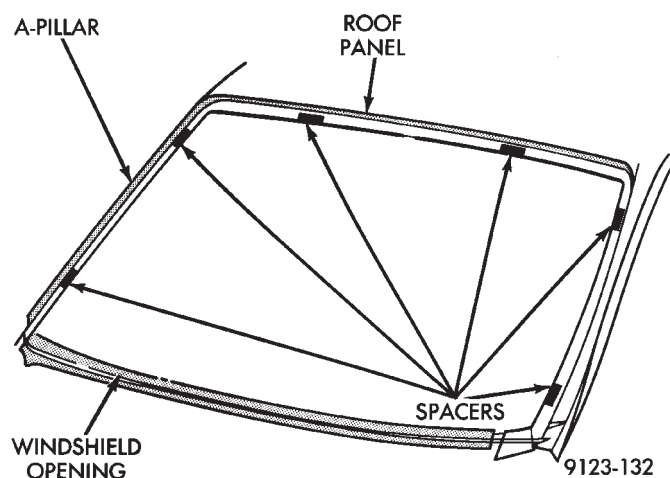

Fig. 5 Position Urethane Compression Spacers
(5) Apply black-out primer 15 mm (.75 in.) wide on top and sides of windshield and 25 mm (1 in.) on bottom of windshield. Allow at least three minutes drying time.
(6) Position windshield bonding compression spacers on lower fence above the support spacers at the edge of the windshield opening (Fig. 5).
(7) Install windshield molding. Apply a 10 mm (0.4 in.) bead of urethane around perimeter of windshield along the inside of the molding.